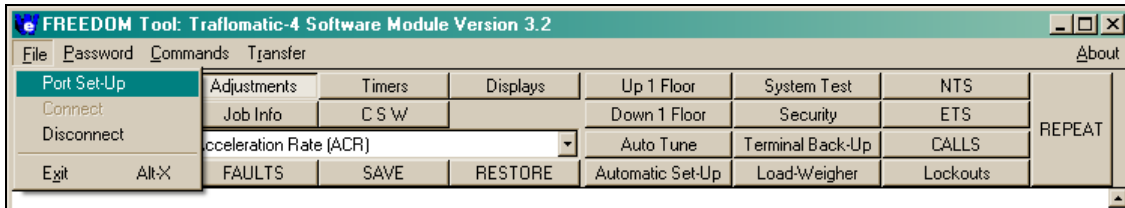

Figure 36
After getting past the security key check in the start-up procedure of the FREEDOM Tool, the main window appears similar to Figure 36. The main window as viewed in Figure 36 can be broken into four (4) sections. These sections are: **The Menu**, **The Feature Bar**, **The Definition Bar**, and the **Terminal Window**. These four (4) sections are described as follows: